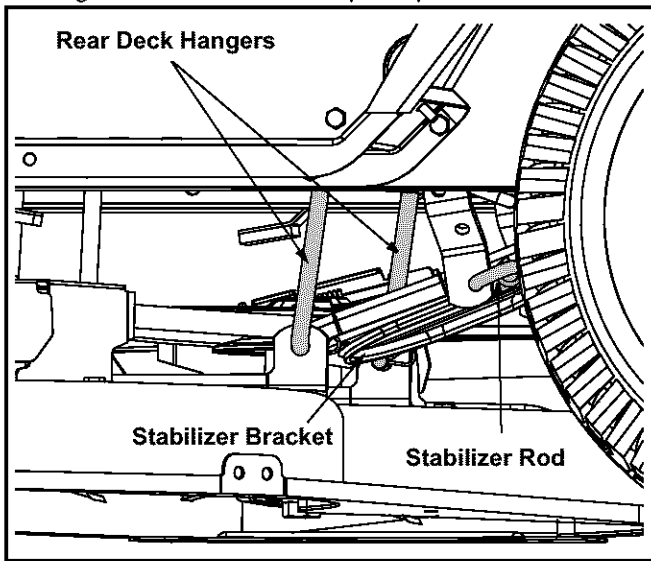

Figure 18
- Remove the hairpin clips which secure the rear deck hangers to the deck stabilizer bracket. See Figure 18. Retain the hairpin clips.
**NOTE:** The style and shape the stablizer bracket and stablizer rod vary. Yours may differ slightly from that shown in Figure 18.
**NOTE:** For normal service and maintenance, the deck stabilizer bracket doesn't need to be removed from the tractor. If removing the cutting deck in order to mount a Snow Thrower attachment, however, the stabilizer bracket must be removed. To do so, simply remove the hairpin clip which secures the stabilizer rod to the stabilizer bracket. See Figure 18.